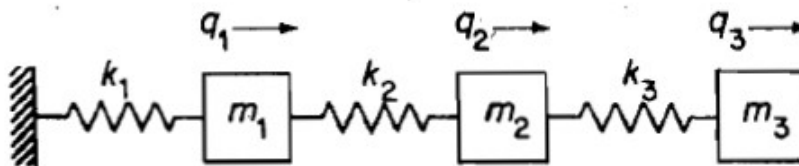

Figure 2
- Q.2(b) Using Lagrange's method, determine the equation of motion for the 3-DOF system shown in Figure 2. [5] 2 3